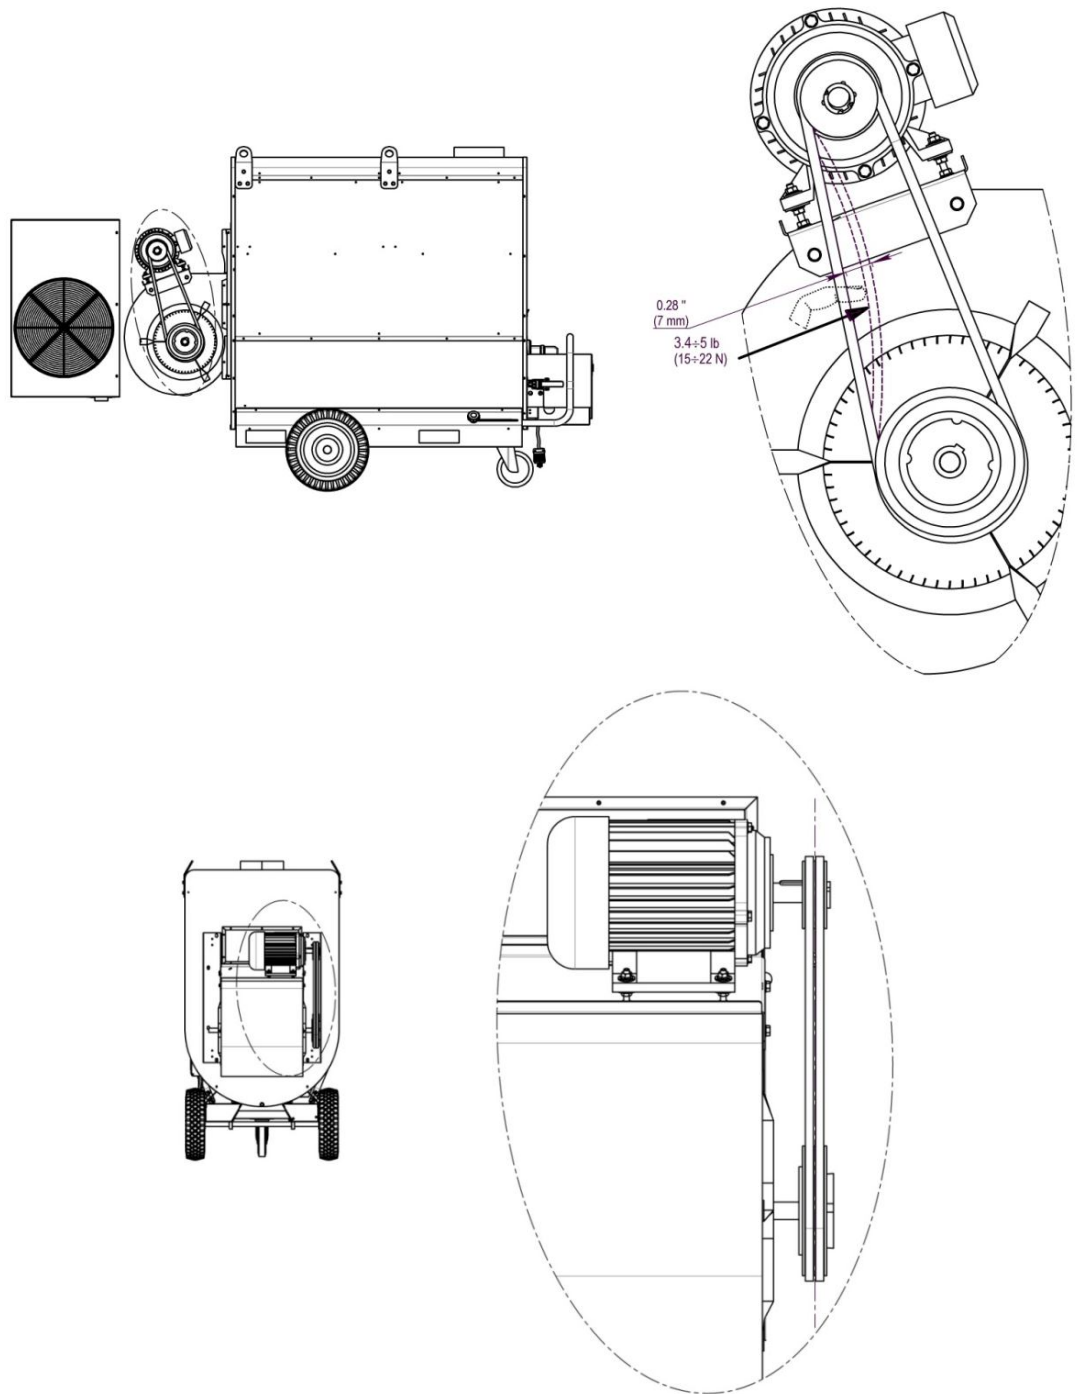

Fig. 5.3.3
- Check belt tension (see Fig. 5.3.3)